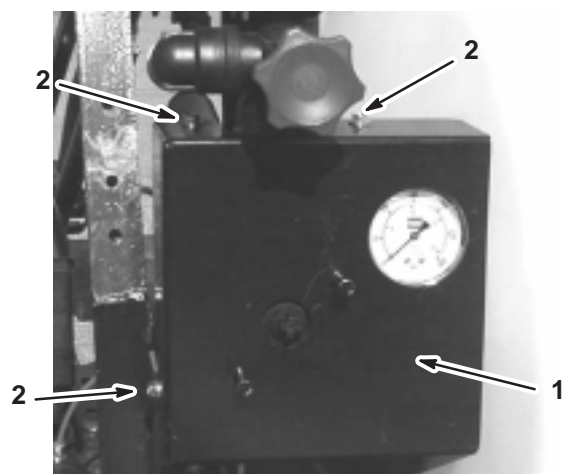

Figure 13
4. Install the cover on the control valve assembly (Fig. 13), securing it with 3 bolts.